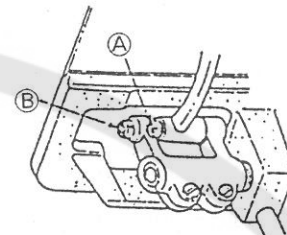

Fig. 23
4.9 Adjustment of Feed Dog Inclination (Fig. 23)